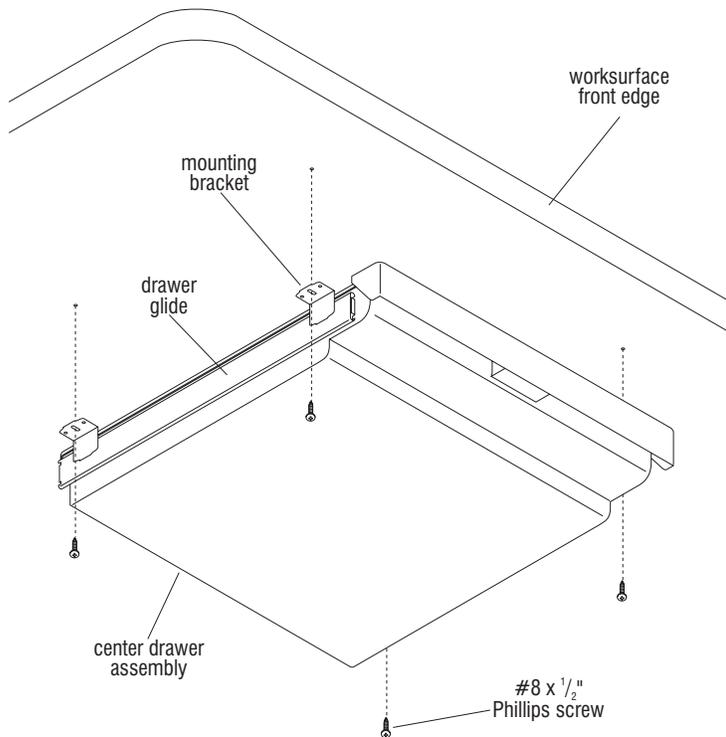

Figure 13
2. Position the drawer unit under the work surface at the desired location, with the front edge of the drawer being flush with the front edge of the work surface. Using a pencil, mark the work surface at the center slots of the four mounting brackets (Figure 13).
3. Drill four pilot holes not more than $\frac{1}{2}$ " deep using a $\frac{1}{16}$ " drill bit at the locations marked for mounting the drawer to the underside of the work surface (Figure 13).
4. Position the center drawer over the pilot holes in the work surface and secure with four #8 x $\frac{1}{2}$ " Phillips screws (Figure 13).